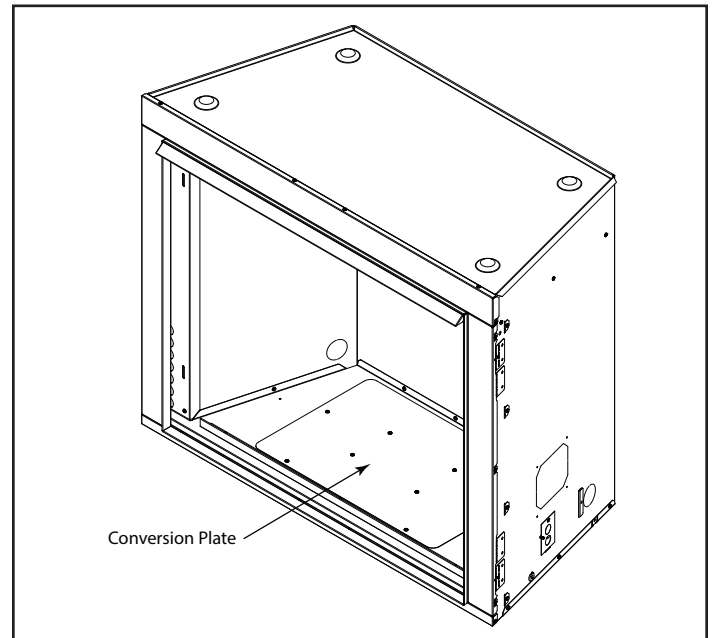

Figure 4
11. Install Vent-Free Conversion Plate, covering the hole in the firebox bottom, where the burner assembly was removed. Secure with (4) screws. See Figure 4.